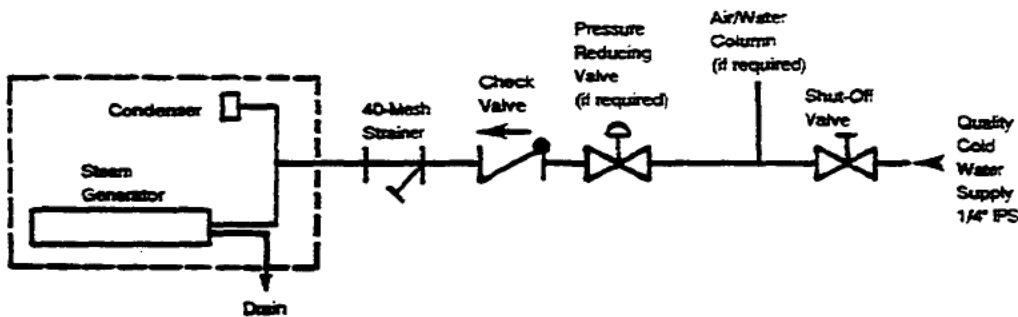

Figure 2-2. Single Water Connection
- If analysis shows that the supply water is within the required limits, a single water connection can be installed as illustrated in figure 2-2.
Furnishing and plumbing the water supply lines is the responsibility of the owner and/or installer. Figures 2-2 and 2-3 illustrate plumbing layouts recommended by Cleveland Range. When installing water supply lines, observe the following instructions.
5. When a water treatment system is not installed, Cleveland Range recommends the plumbing layout illustrated in figure 2-2.